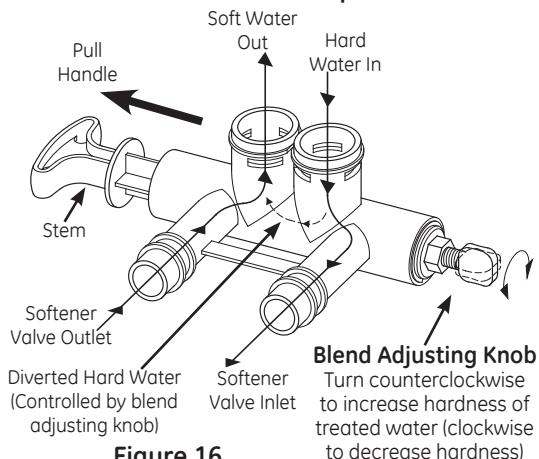
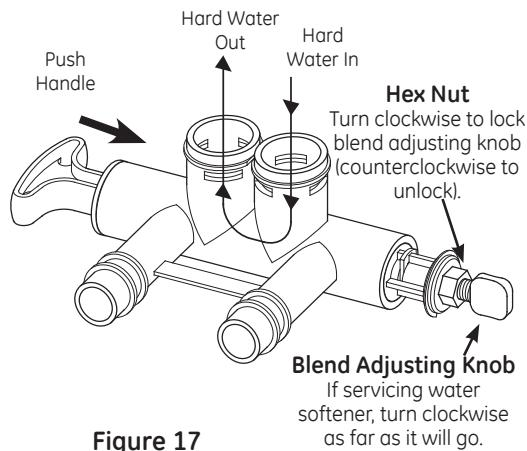

Figure 16
Figure 17
The blend adjusting knob (Figure 16) gives the ability to finely adjust hardness of the treated water leaving the water softener. If slightly harder water is desired than is normally delivered by the water softener, the blend adjusting knob can divert a small stream of hard water and blend it with the soft water entering the home. The amount of water diverted is controlled by turning a blend adjusting knob on the end cap of the valve stem.
1. Hold bypass handle to keep the valve stem from rotating (see Figure 16). Loosen hex nut on blend adjustment knob by turning the hex nut counterclockwise, (see Figure 17).
2. **TO INCREASE HARDNESS:** With the bypass in the service position (see Figure 16) hold the handle to keep the valve stem from rotating and turn the blend adjusting knob counterclockwise up to 2 turns from the closed position. It is recommended that adjustments be made in quarter turn increments over several weeks until the desired hardness is achieved. **NOTE:** Once an adjustment is made to the blend valve knob the change in water hardness at the homes faucets or shower heads may take several days to be noticed. This delay is due to the large amounts of already conditioned water in the pipes and water heater that must be exchanged before a change in hardness can be noticed. Have the water tested to determine the actual water hardness.
3. **TO DECREASE HARDNESS:** With the bypass in the service position (see Figure 16) hold the handle to keep the valve stem from rotating and turn the blend adjusting knob clockwise. When the knob will not turn anymore, hard water is no longer being blended into the soft water.
4. Once the desired hardness is achieved tighten the hex nut (see Figure 17) clockwise until it comes in contact with the bypass stem.